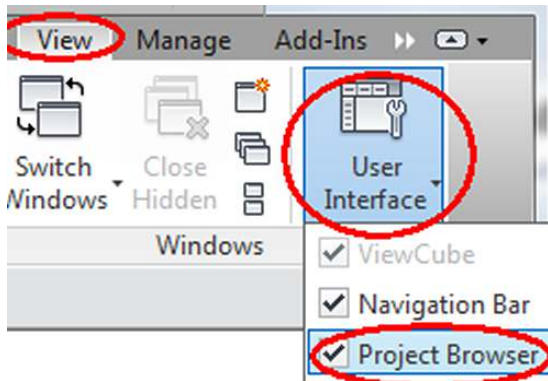

Fig. 1.4 – Visibility settings for Revit User Interface components
9. If you do not see the Project Browser, then on View tab → Windows panel → User Interface dropdown → Select Project Browser (Fig. 1.4).